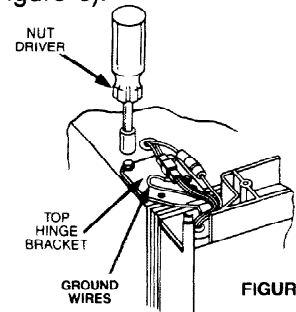

FIGURE 6
8. Remove the upper door hinges, (3) screws per upper hinge (see Figure 6).